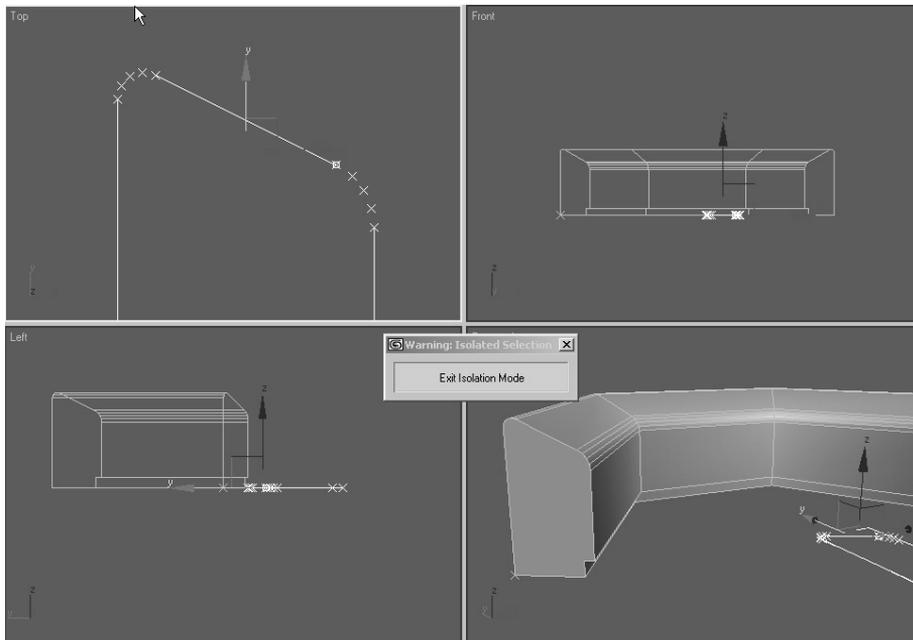

FIGURE 9.21 Using Divide to add three new vertices to each curved segment of the original shape adds segments to the mesh only where needed.
5. The Path Steps and Shape Steps settings adjust the number of steps between each vertex equally, so just adding shape steps increases the face count in places where the extra detail is not needed. To repeat the definition of path and shape steps, there are points between vertices that define curvature. The path has no curvature, so 0 Path Steps is fine. The shape has curvature only at the filleted areas. Instead of adjusting steps at this point, you would be better off adding vertices to the curved segments of the original 2D shape. In the Top viewport, select console_shape. In the Modify panel, Stack view, highlight Segment and select the two curved segments at the upper corners. In the Geometry rollout, enter 3 in the Divide field and click the Divide button. This adds three new vertices to define the curvature (see Figure 9.21). Exit sub-object mode.